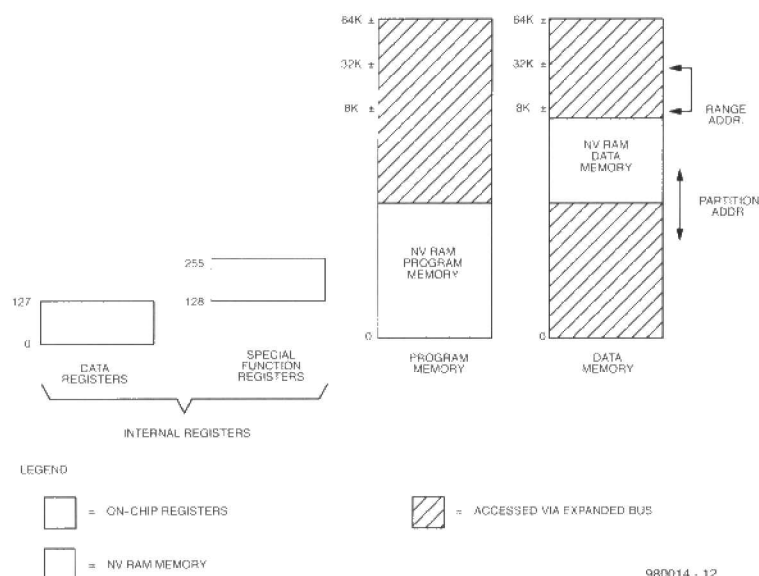

Figure 2. The logical address spaces are largely identical with those of an 8051 processor, except for the non-volatile sections.
Figure 2 illustrates the address spaces that are accessed by the DS5000(T). As shown in the figure, separate address spaces exist for program and data memory. Since the basic addressing capability of the machine is 16 bits, a maximum of 64 kbytes of program memory and 64 kbytes of data memory can be accessed by the DS5000(T) CPU. The 8 kbyte or 32 kbyte RAM area inside the DS5000(T) can be used to contain both program and data memory.